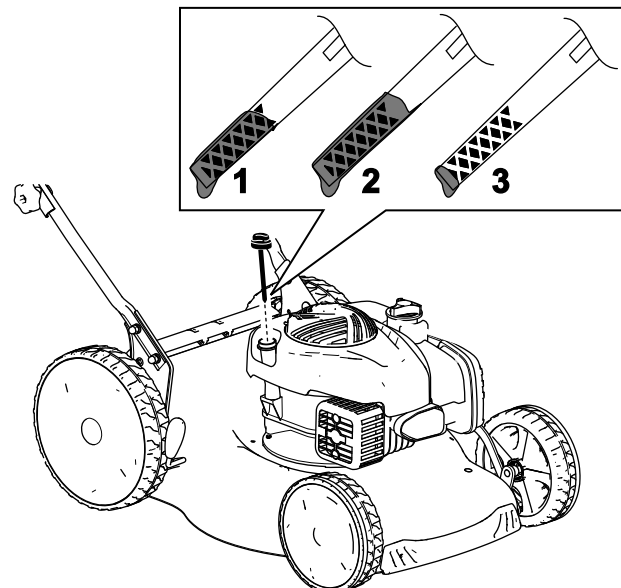

Figure 11
2. Remove the dipstick by rotating the cap counterclockwise and pulling it out (Figure 11).
5. Read the oil level on the dipstick (Figure 11).